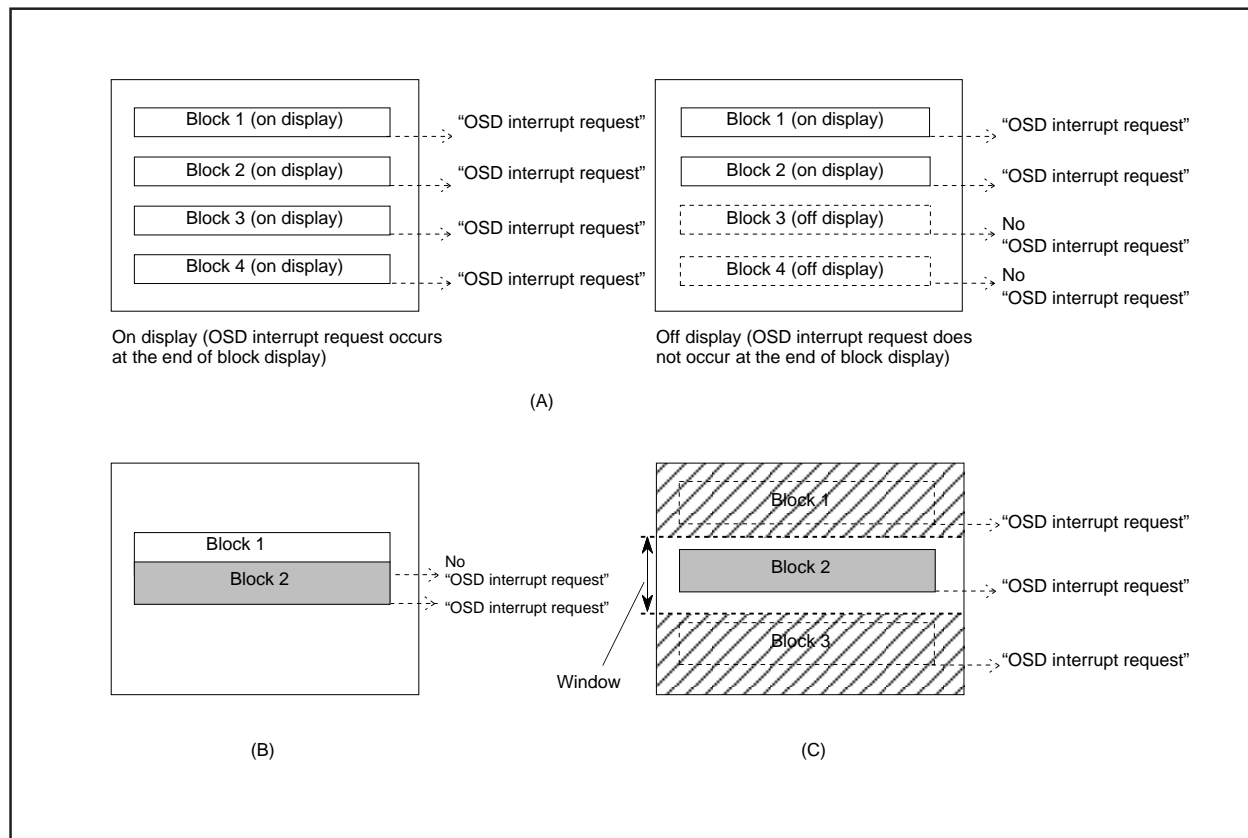

Fig. 12.11.36 Note on Occurrence of OSD Interrupt
- Notes 1:** An OSD interrupt does not occur at the end of display when the block is not displayed. In other words, if a block is set to off display by the display control bit of the block control register i (addresses 00D0₁₆ to 00DF₁₆), an OSD interrupt request does not occur (refer to Figure 12.11.36 (A)).
- 2:** When another block display appears while one block is displayed, an OSD interrupt request occurs only once at the end of the another block display (refer to Figure 12.11.36 (B)).
- 3:** On the screen setting window, an OSD interrupt occurs even at the end of the CC mode block (off display) out of window (refer to Figure 12.11.36 (C)).